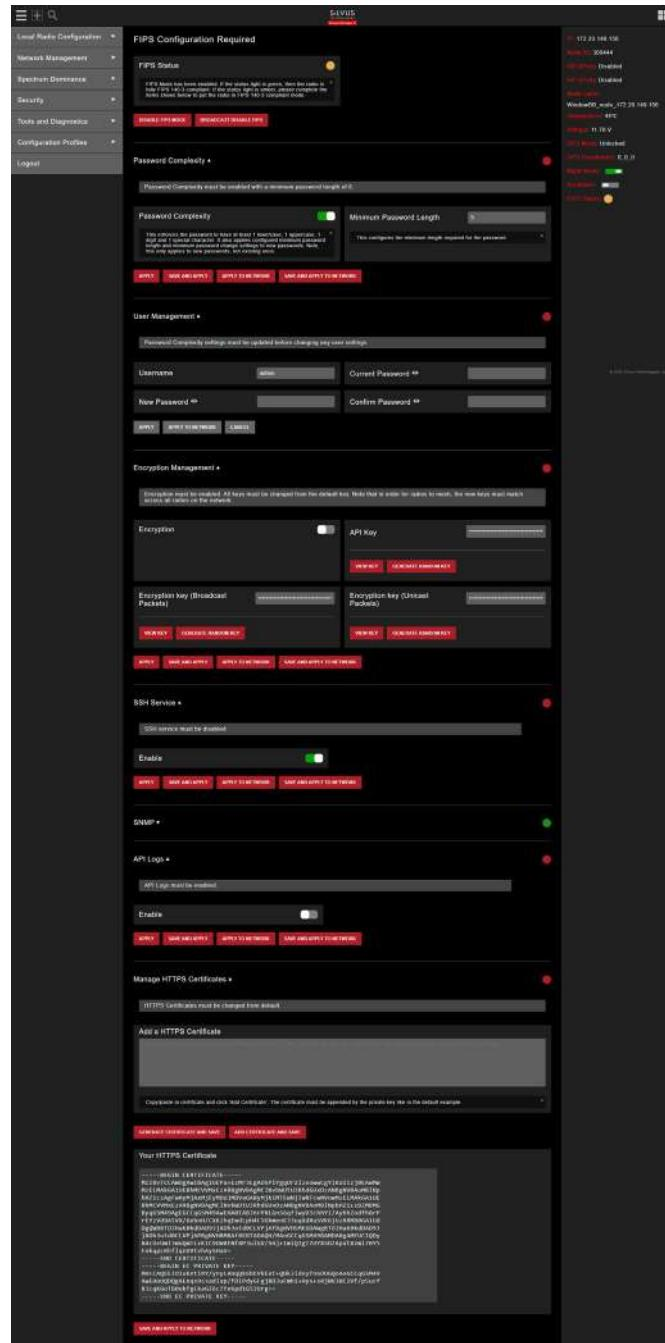

Figure 103 List of actions for FIPs
5. A list of setting changes will need to be completed before FIPS can be considered as active. Figure 103 list all items that need to be completed. The first item is password complexity. Note that each section will be highlighted by a red dot in the top right corner which indicates the step has not yet been completed. Configuring each section and applying or saving it correctly will change the color of this indicator to green, letting the user know to move onto configuring the next section.